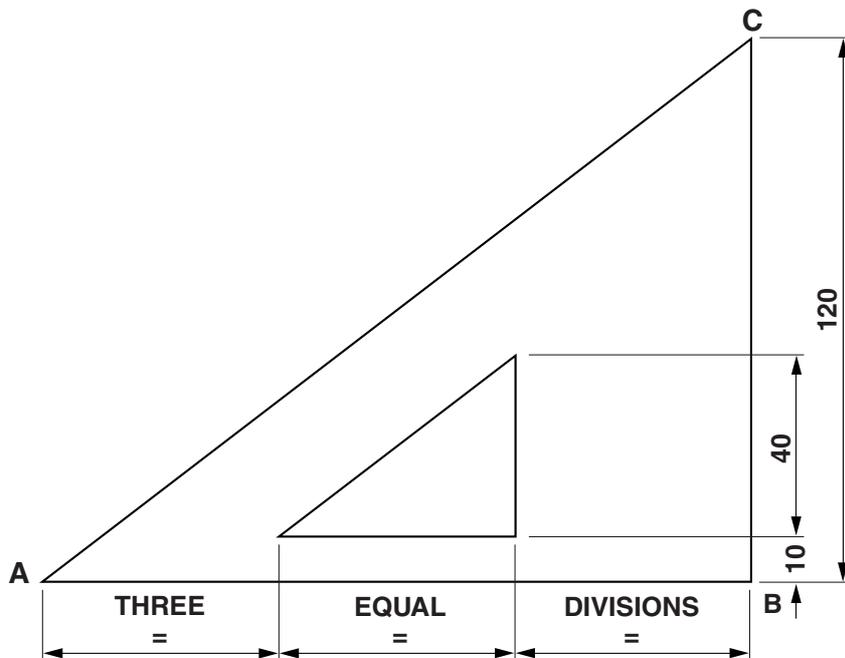

Fig. 1
- 1 Fig. 1 shows a sheet of metal with a triangular hole in it.